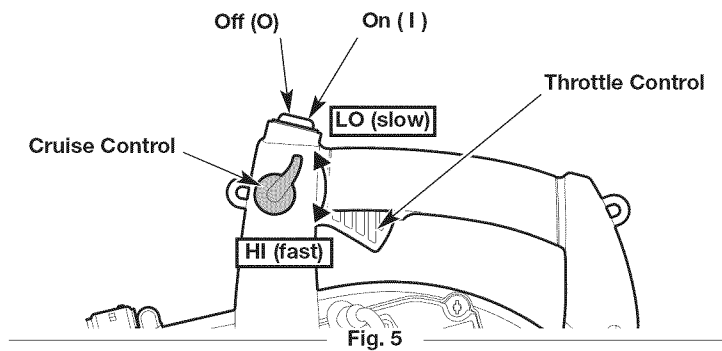

Fig. 5
NOTE: There is no need to turn the unit on. The On/Off switch is in the ON (I) position at all times (Fig. 5).
4. Move the cruise control to the **LO (slow)** position (Fig. 5).
NOTE: Keep the cruise control in the **LO (slow)** position and **DO NOT** squeeze the throttle control until step 9 (Fig. 5).
8. **DO NOT** squeeze the throttle control. Idle the engine for 5 to 10 seconds. If the unit stops during this time: Squeeze and hold the throttle control or move the cruise control to the **HI (fast)** position (Fig. 5). Pull the starter rope with a controlled and steady motion until the unit starts.
9. Squeeze and hold the throttle control or move the cruise control to the **HI (fast)** position (Fig. 5). Allow the engine to warm up for 30 to 60 seconds.
2. Press and hold the On/Off switch in the **OFF (O)** position until the engine comes to a complete stop (Fig. 5).
- Use the cruise control to make continuous operation easier (Fig. 5).